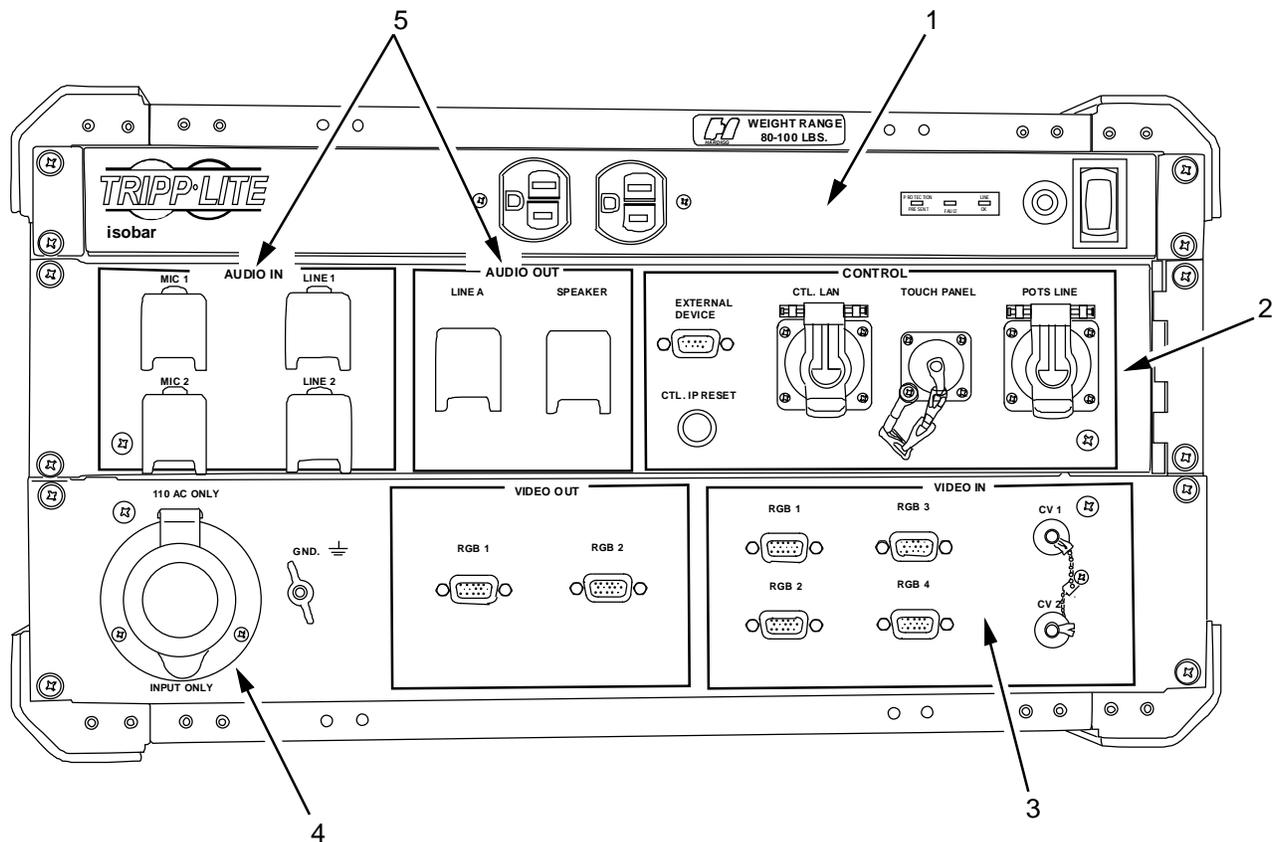

Figure 3. Audio/ Video Switching Case, Rear.
The rear of the AVSC (Figure 3) allows access to accessory power outlets and all component connections.
The power panel (Figure 3, Item 1) provides main power switch and accessory AC power outlets.
The control panel (Figure 3, Item 2) provides one Plain Old Telephone Service (POTS) connection for analog telephone line input; one Local Area Network (LAN) connection; one quick disconnect to attach the touch panel cable; one serial connection for use with an external device; and one Internet Protocol (IP) Reset button which resets the IP address of the system to the default IP.
The video input panel (Figure 3, Item 3) provides two composite video inputs for use with standard video inputs such as DVD players, satellite receivers or any other video source providing a composite signal; and four HD15 inputs for direct connections to computers, VTC CODEC or other high resolution video sources. The video output panel provides two HD15 output connectors for direct connection to display systems such as LCD, plasma display screens, VTC CODECs, or any other high resolution recorder/monitor.
The AC power connection panel (Figure 3, Item 4) provides power to the entire DC2E Mini System and the system grounding lug.
The audio panel (Figure 3, Item 5) supplies two microphone level inputs; two line level audio inputs; and two line level outputs, one of which are designated for use with the supplied speaker.